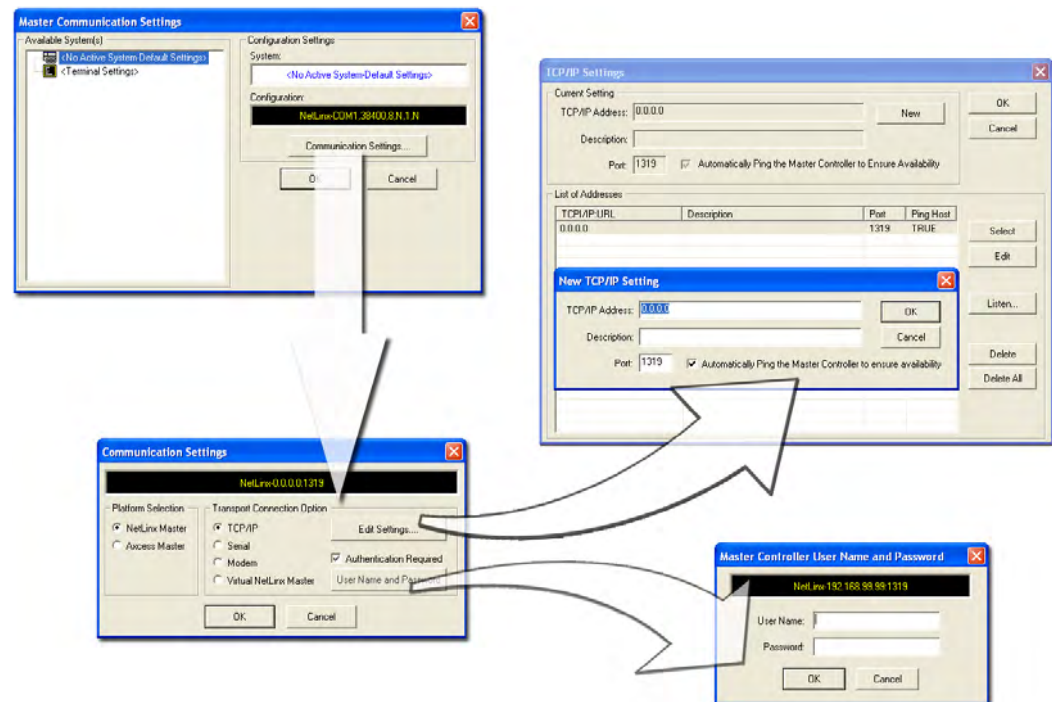

FIG. 4 Assigning Master Communication Settings and TCP/IP Settings
2. Select **Settings > Master Communication Settings** from the Main menu to open the Master Communication Settings dialog (FIG. 4).
6. Click the **Edit Settings** button (*on the Communications Settings dialog*) to open the TCP/IP Settings dialog (FIG. 4). This dialog contains a series of previously entered IP Address/URLs and their associated names, all of which are stored within Studio and are user-editable.